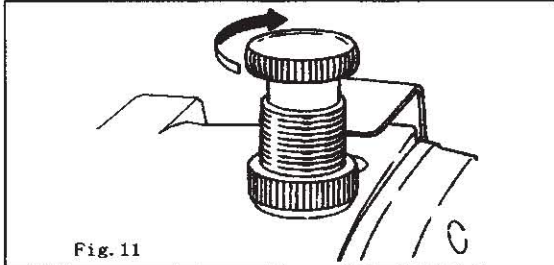

Fig. 11
10、 Presser foot (Figs.11 and 12):
Adjustment of pressure on presser foot (Fig.11)